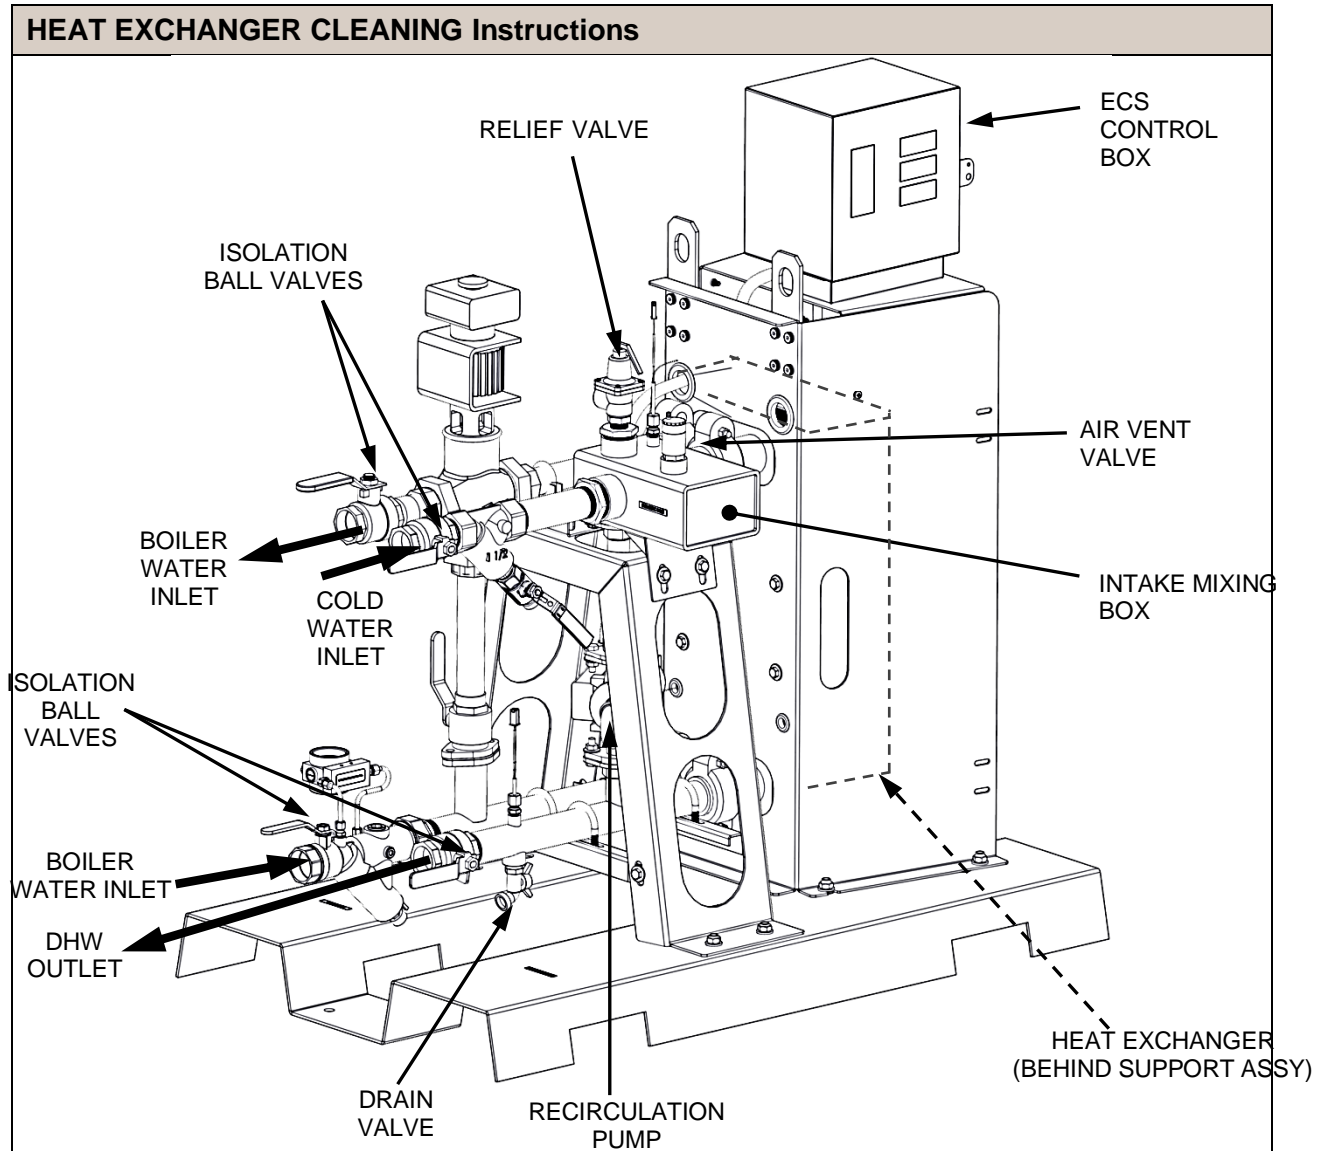

Figure 8-1. SmartPlate Isolation Valve Locations
2. Close all four Water Heater Isolation Ball Valves (Figure 8-1).
2. Close all four of the Isolation Ball Valves (Figure 8-1).